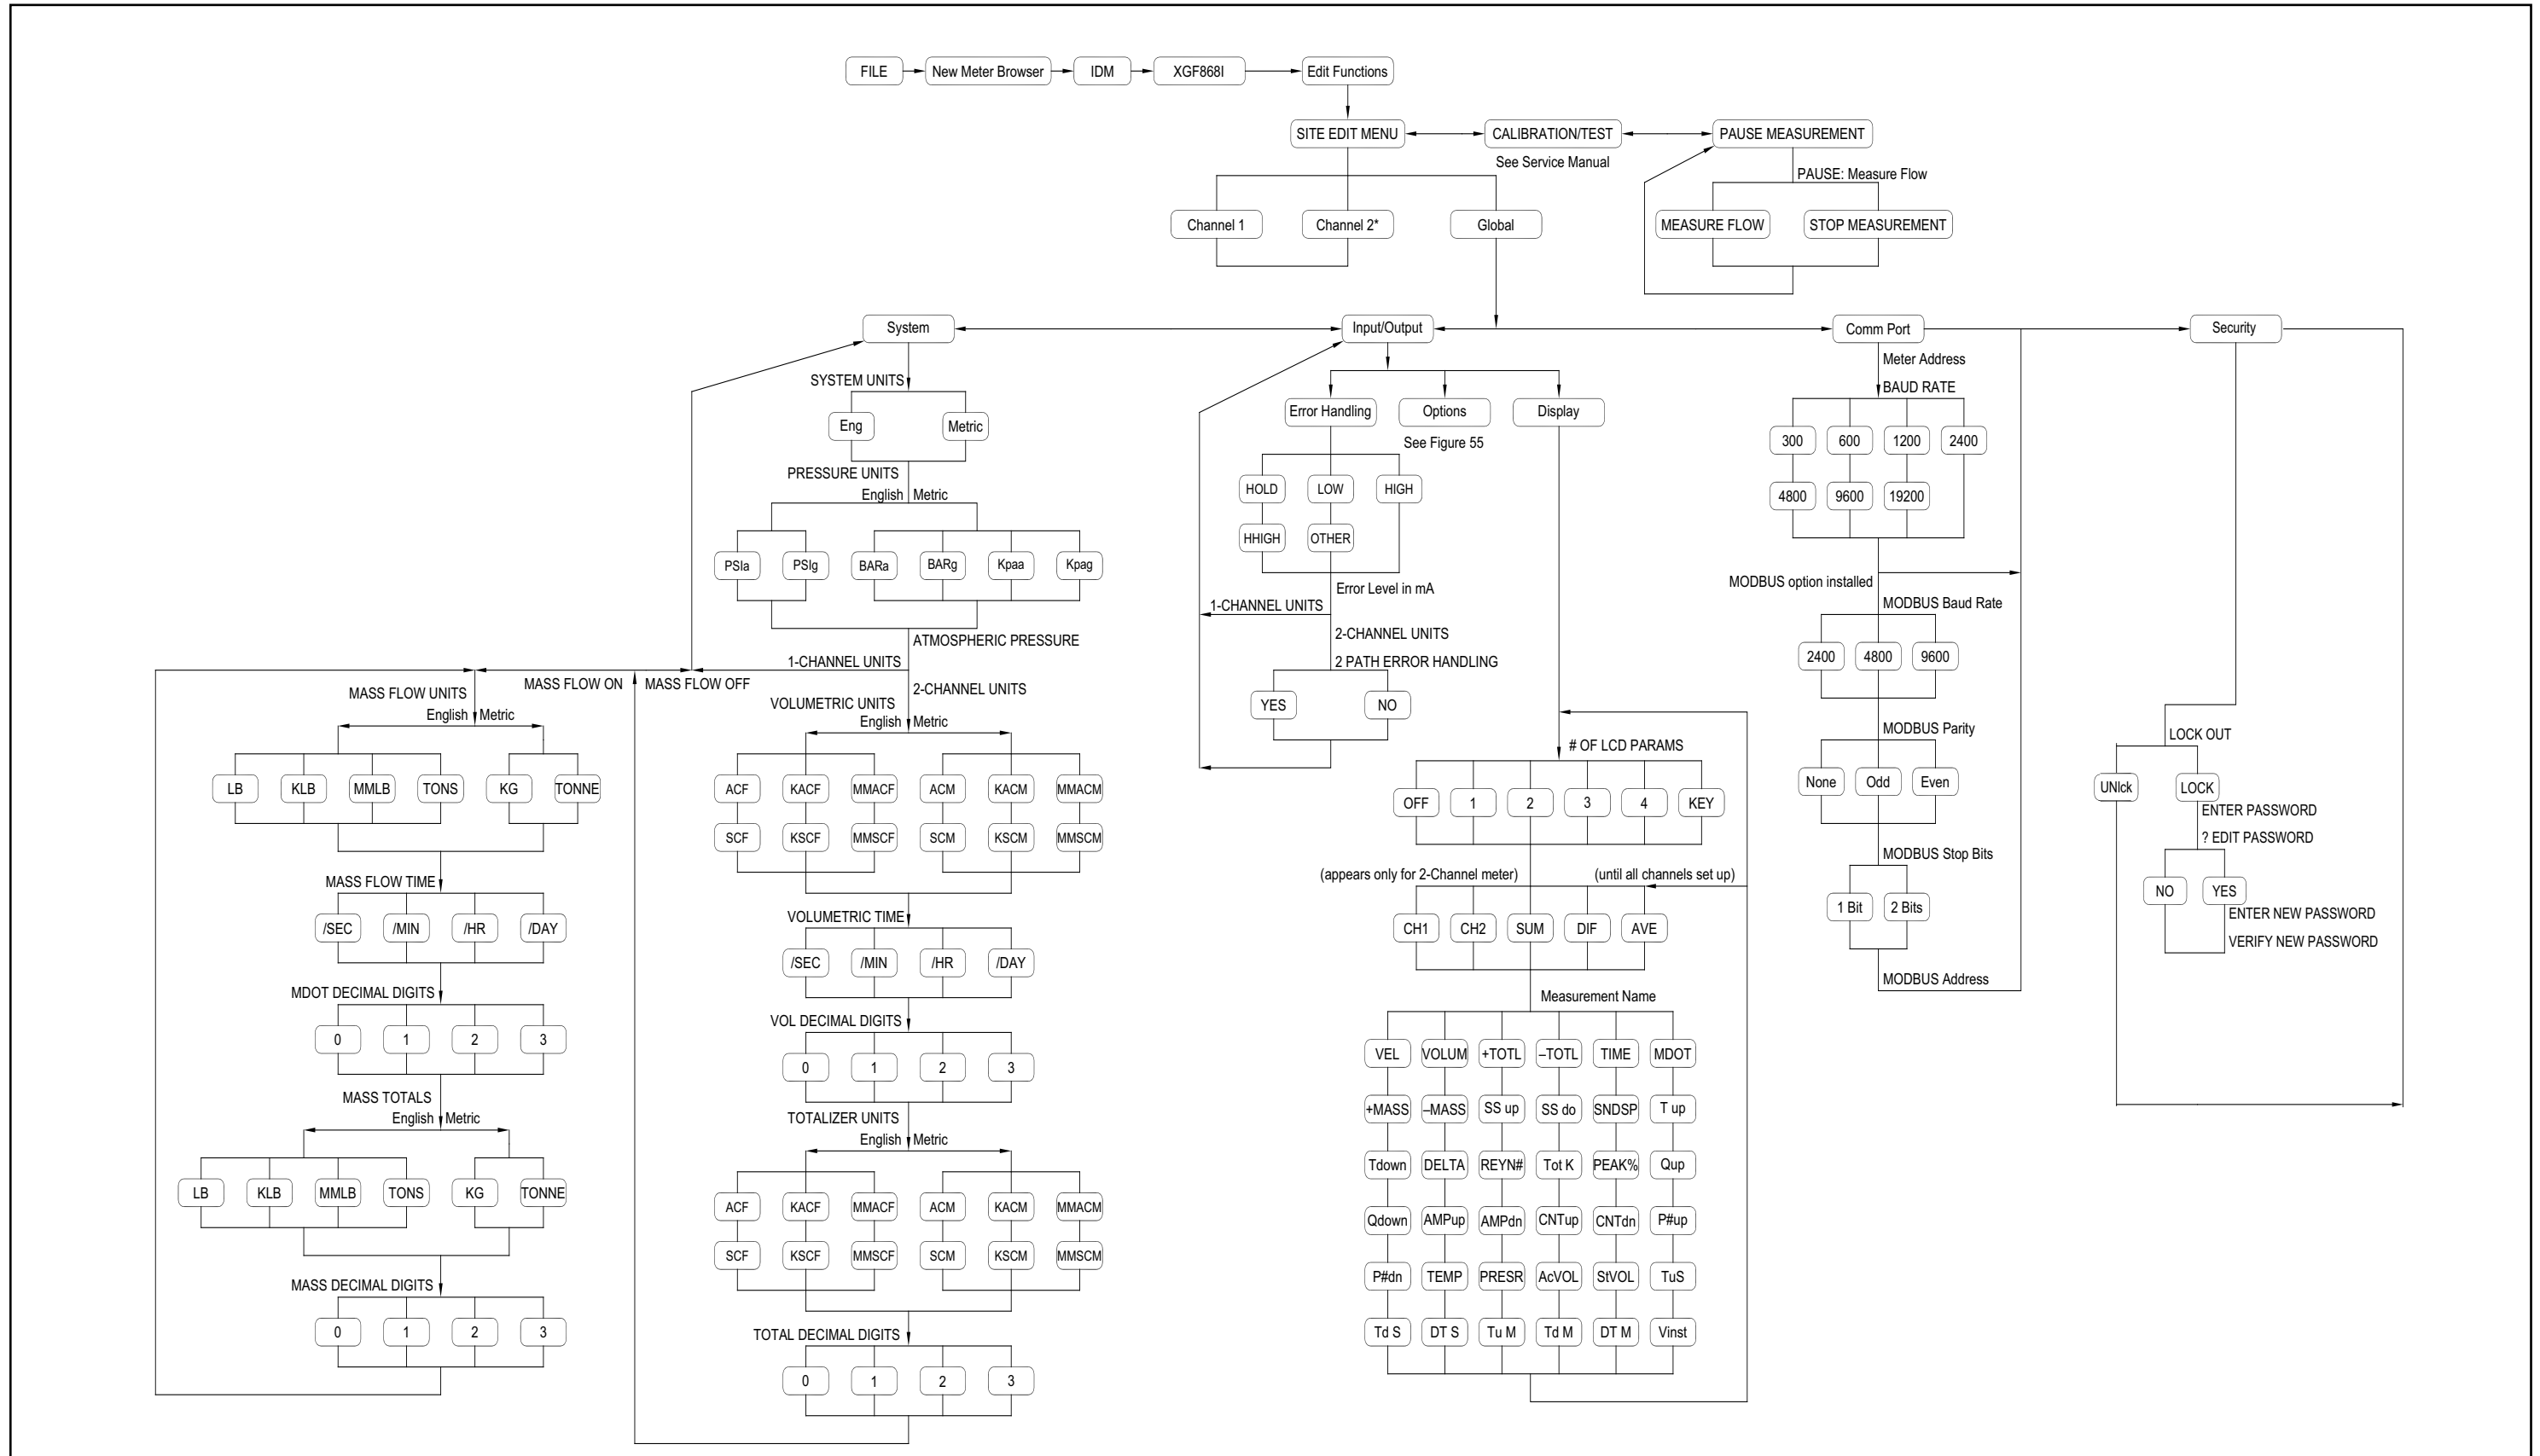

Figure 57: PanaView PROG > GLOBL > SYSTM, I/O & COMM Menus
While completing these instructions, refer to the menu map in Figure 57 on page 111.
- Figure 57, “PanaView PROG > GLOBL > SYSTM, I/O & COMM Menus,” on page 111